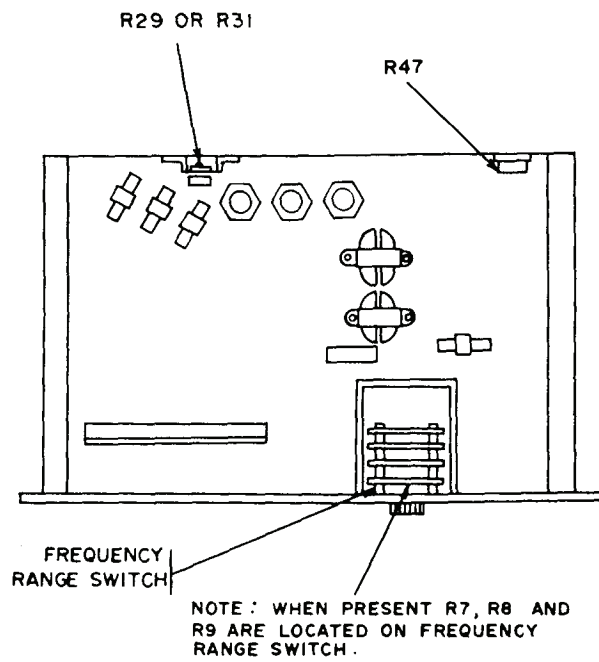
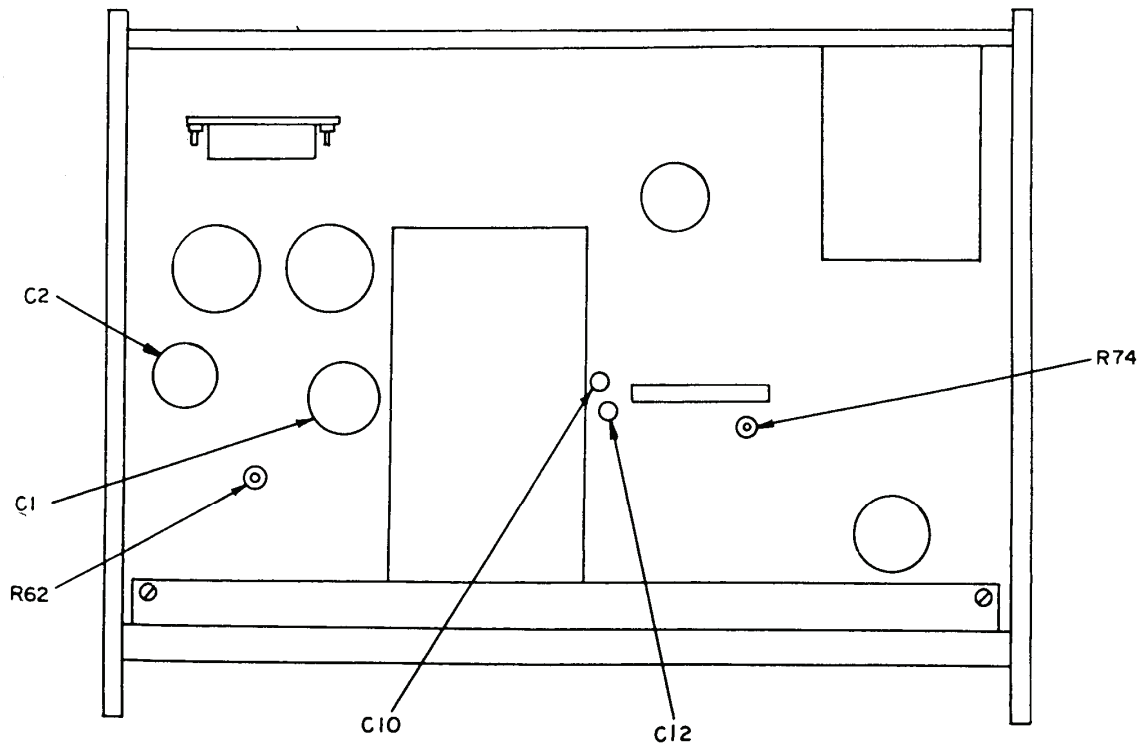

Figure 2. Test instrument - bottom view.
Figure 3. Test instrument - (TS-421C/U and model F370A).
- (6) Adjust R8 (fig. 2) for a 200 Hz indication on frequency counter (R).
- (7) Turn **FREQUENCY** dial to **200** and adjust either C1 or C2 (C10 and C12 on TS-421C/U and model F370A) as applicable for a 2000 Hz indication on frequency counter. If provided, adjust both C1 and C22 (C10 and C12 for TS-421C/U and model F370A) for best compromise between frequency counter indication of 2000 Hz and multimeter indication of 50 V (R).
- (8) Repeat a (1) through (7) above.
- (9) Set **FREQUENCY RANGE** switch to **X100** and turn **FREQUENCY** dial to **20**.
- (10) Adjust R7 (fig. 2) for a 2000 Hz indication on frequency counter (R).
- (11) Set **FREQUENCY RANGE** switch to **X1** and turn **FREQUENCY** dial to **100**.
- (12) Adjust R9 (fig. 2) for a 100 Hz indication on frequency counter (R).
- (1) Adjust **AMPLITUDE (OUTPUT)** control for a 54.86 V indication on multimeter.
- (2) Adjust R29 (fig. 2) (R31 on some models) (R74 on TS-421C/U and model F370A, fig. 3) for a +37-dB indication on **OUTPUT LEVEL** meter.